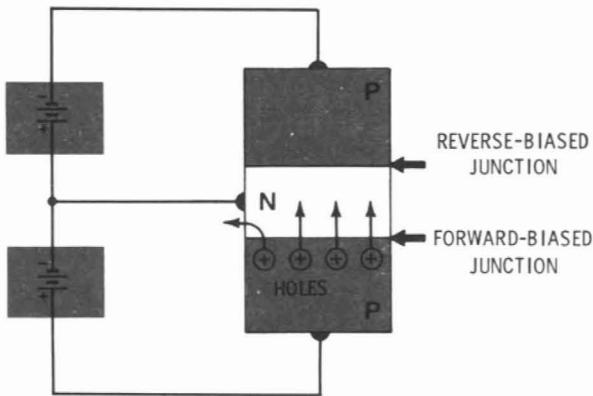

Fig. 2-19. Both junctions working together—PNP.
**Action of Two Junctions Together**—The action of the forward-biased junction and the reverse-biased junction operating together is similar to the action in the NPN transistor. In the case of the PNP, the forward-biased junction injects holes into the N region (Fig. 2-19). Once the holes are in this N region they are available to contribute to the reverse current through the reverse-biased junction. Because the battery connected to the reverse-biased diode is of higher potential than the battery across the forward-biased junction, the holes that have been injected into the N region are attracted through the reverse-biased junction. Just as in the NPN transistor, the middle section is very thin compared to the two end sections. This is so designed to prevent recombination of the holes with electrons in this middle section.